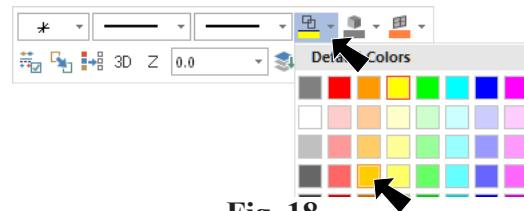

Fig. 18
- Step 1. Sketch wood base tangerine. Right click in the graphics window and on the Mini Toolbar click **Wireframe Color** drop down arrow and select tangerine, Fig. 18.